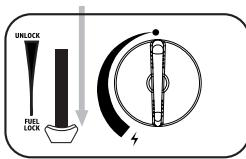
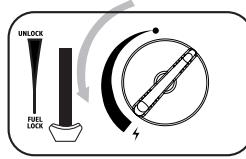

fig. 3
fig. 4
3. Press the cartridge lever (6) down (fig.3) and close the cartridge cover.
4. If you hear a “hissing” noise, the cartridge has not been correctly fitted. Do not attempt to ignite the appliance but move lever (6) to the “Unlock” position and repeat step (1-4).
5. Turn the knob (8) fully to the ignition position until it clicks. (fig.4) Repeat this action until burner ignites.